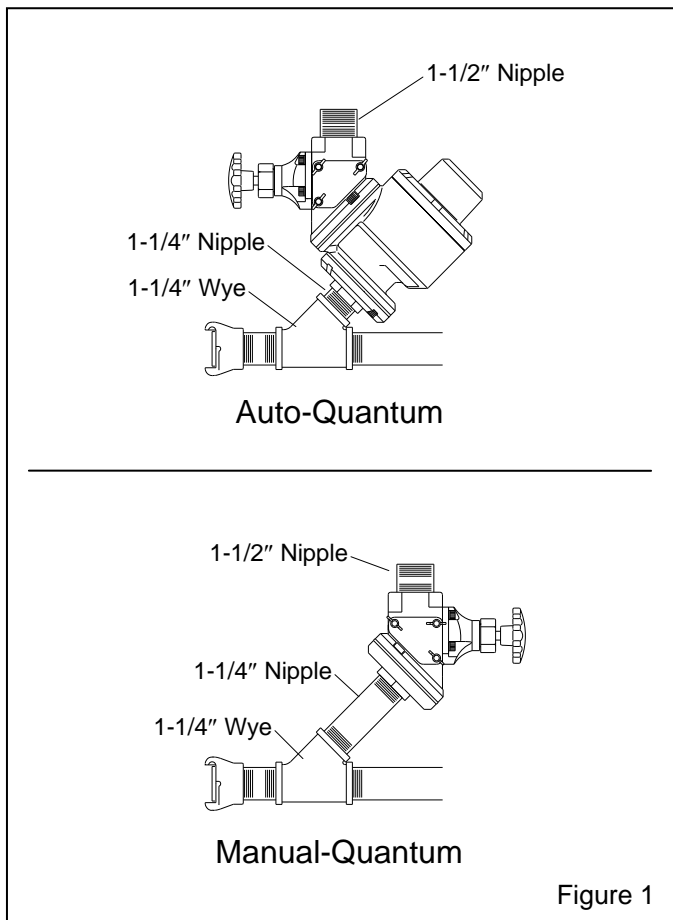

Figure 1
2.2 Install the 1-1/4" outlet nipple and wye on the metering valve as shown in Figure 1. NOTE: 1-1/2" wye is available for 1-1/2" piping. Refer to Page 7, Figure 7.
2.3 Using the 1-1/2" nipple, install the valve on the blast machine. Position the valve assembly so the wye is aligned as shown in Figure 1. NOTE: On some blast machines it may be necessary to disassemble the valve at the upper body in order to rotate the valve onto the machine. Some realigning of the vertical and horizontal piping may be required to align the piping.